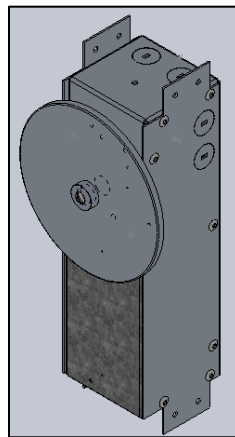

FIG. 4- CANOPY SUBASSEMBLY
- a. CANOPY SUBASSEMBLY (as shown in FIG. 4)